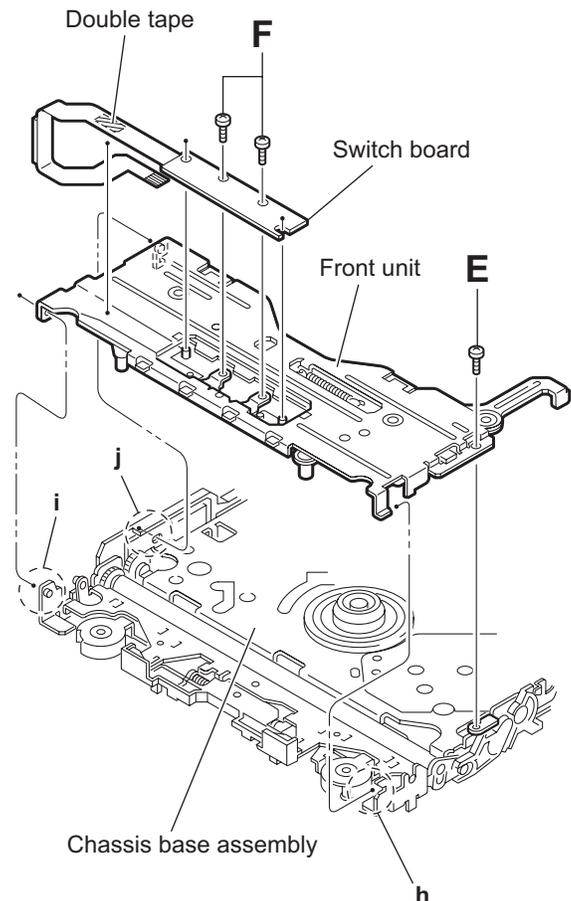

Fig.12
- Remove the two screws **F** attaching the switch board. (See Fig.12.)